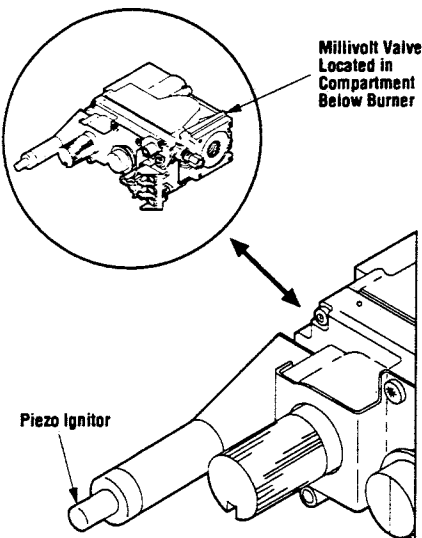

Figure 21
Step 8. Checking the System – With gas line installed run initial system checkout before closing up the front of the unit. Follow the pilot lighting instructions on page 14 for millivolt appliances. Refer to page 16 for electronic appliance lighting instructions for piezo ignitor location refer to *Figure 21* (millivolt appliances only).